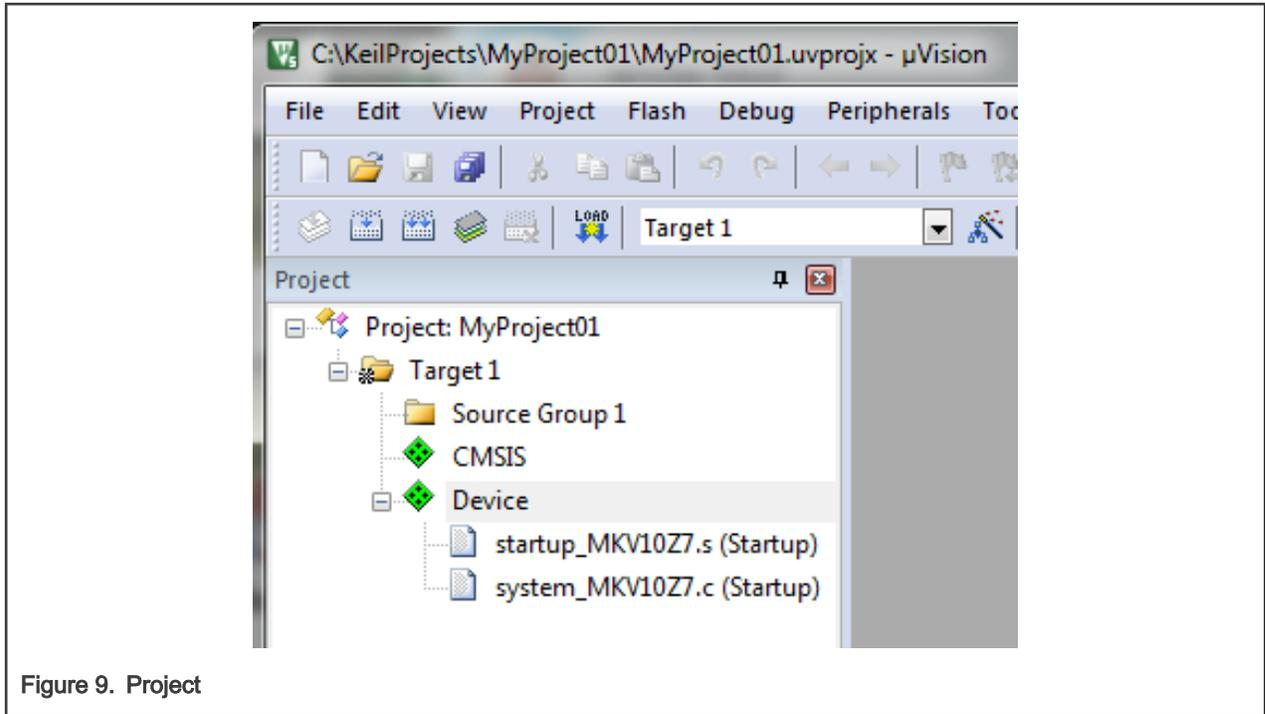

Figure 9. Project
10. Click OK, and a new project is created. The new project is now visible in the left-hand part of Keil µVision. See Figure 9.